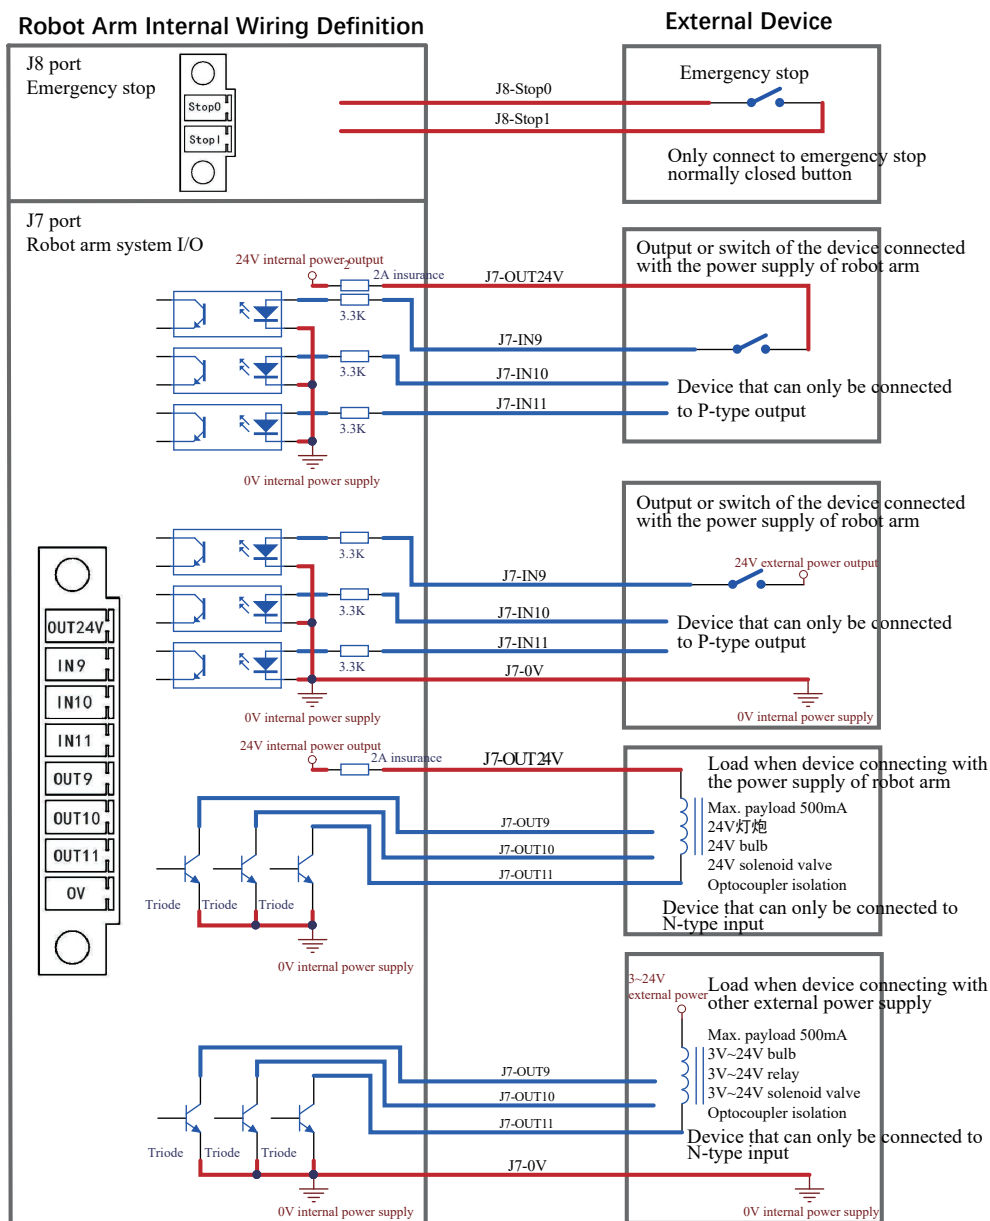

Figure 3
4. J7, J8 interface male socket pin definition (as shown in Figure 3)